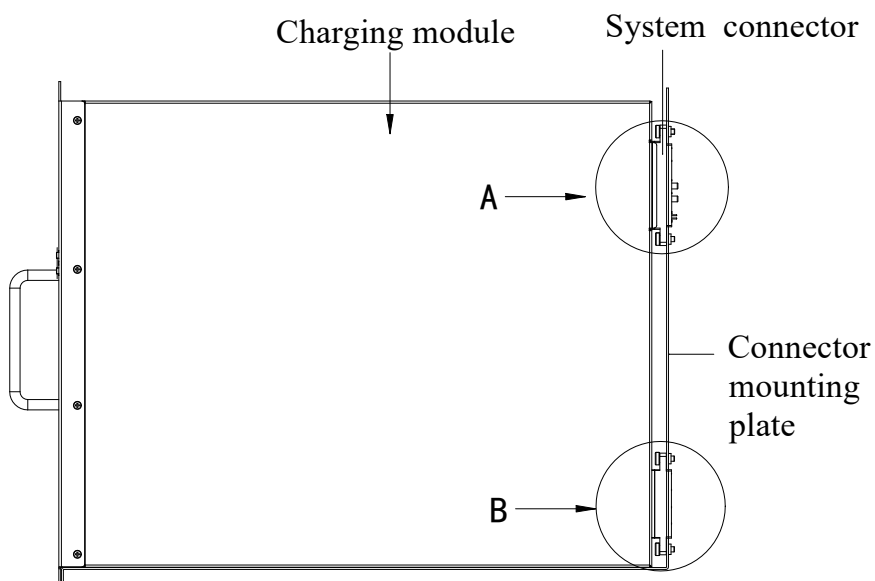

Fig. 2-7 Mounting of system connector
1) System connector (input cable connector, output cable connector) are installed on the connector installation panel, see Figure 2-7